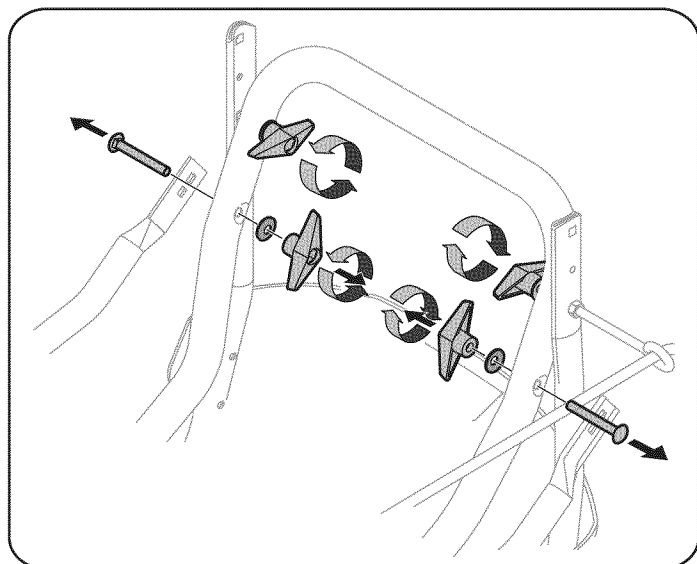

Figure 1
3. Remove the upper wing knob and carriage bolt from each side of the lower handle. See Figure 1.